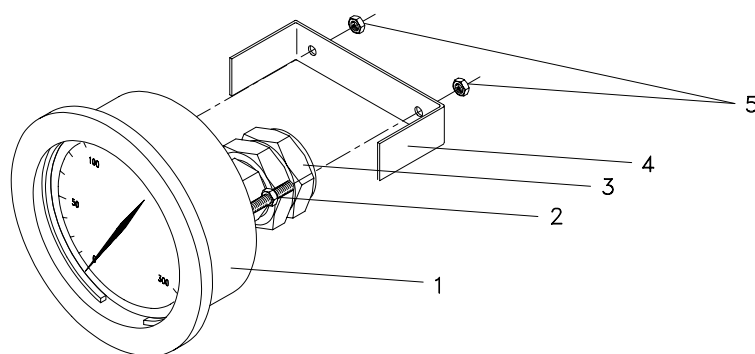

Figure 6-11. LP Pressure Gauge (ALP-G406)
- (1) Using approved lubricant, lubricate new O-ring (8, PN M83248/2-906) and install on threads of new relief valve.
- (2) Remove bagging from compressor manifold, and install new relief valve in manifold.
- (3) Apply pressure and test valve for leaks using NID solution prepared in accordance with paragraph 4.7.3.2. Correct leaks as necessary.
- (4) Complete reentry control report and log.
6.8.2.9 LP Pressure Gauge (ALP-G406). Corrective maintenance for compressor LP pressure gauge (ALP-G406), which is the only one of its kind in the system, is limited to removal and replacement. The gauge is supplied with a snubber, the gauge side of which has been filled with silicone oil and sealed at assembly. If the snubber is damaged, the entire gauge must be replaced since removal of the snubber is prohibited. If the gauge is being removed for calibration purposes and will be used again at a later date, ensure cleanliness is maintained at all times. Refer to Figure 6-7 for location and to Figure 7-20 for an index of replacement parts. The callouts in the following procedure refer to Figure 6-11.